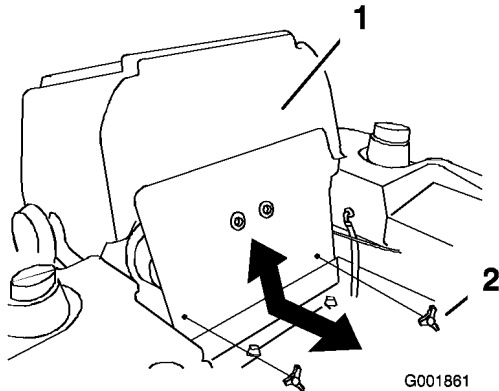

Figure 43
1. Tilt the seat forward and remove the front engine panel (Figure 43).